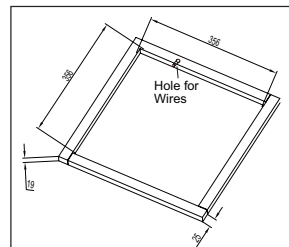

Figure 1
- 3.Examine the roof opening size, if the opening is small than 356x356mm, the opening must be enlarged. If the opening exceeds 356x356mm, a mounting plate (frame) must be fabricated to reduce the opening size (See Figure 1).
If a roof vent opening is not used,a new opening(see figure 1)will be cut into the vehicl roof.A matching opening will also have to be cut into the interior vehicle ceiling,be careful when cutting the ceiling opening because if the ceiling opening is carpeted,snagging could occur. After the opening in the roof and interior ceiling are the correct size,a framed support structure must be placed between the exterior roof top and interior ceiling.The reinforced framed structure must follow the follwing guidelines:
2.It must be capable of holding the roof outer surface and interior ceiling apart and supporting them, so that when the roof top air conditioner and ceiling assembly are bolted together,no collapsing occurs. A typical support frame is shown in Figure 1.